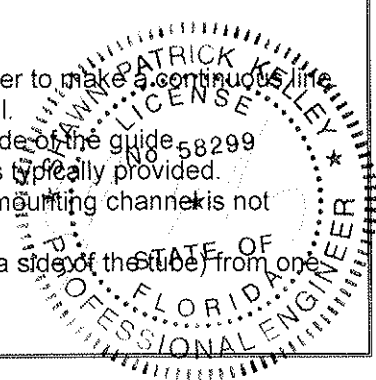

*Figure 10.1 - Hood Supports*
1. Refer to the job information to determine the type and quantity of hood supports required for your door. Hood supports will be noted on the elevation view of the job construction drawings. See **Figure 10.1** for hood support types.